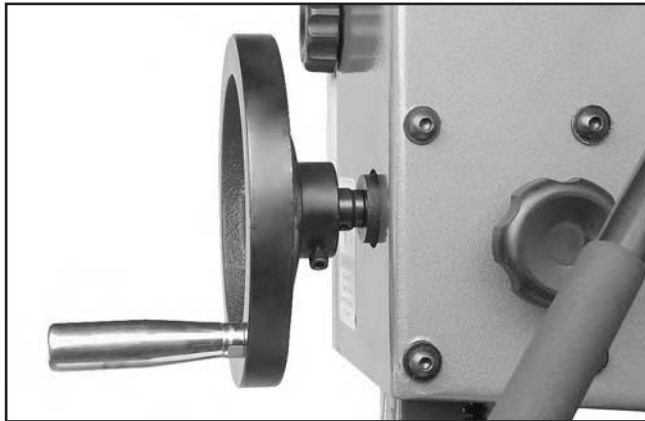

Figure 15. Guide post handwheel installed.
1. Insert the guide post handwheel onto the shaft, and secure it with the cap screw on the flat side of the shaft, as shown in **Figure 15**.